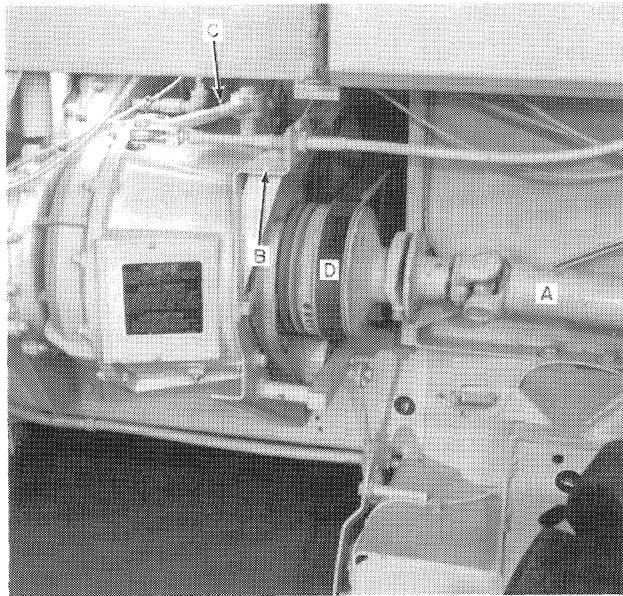
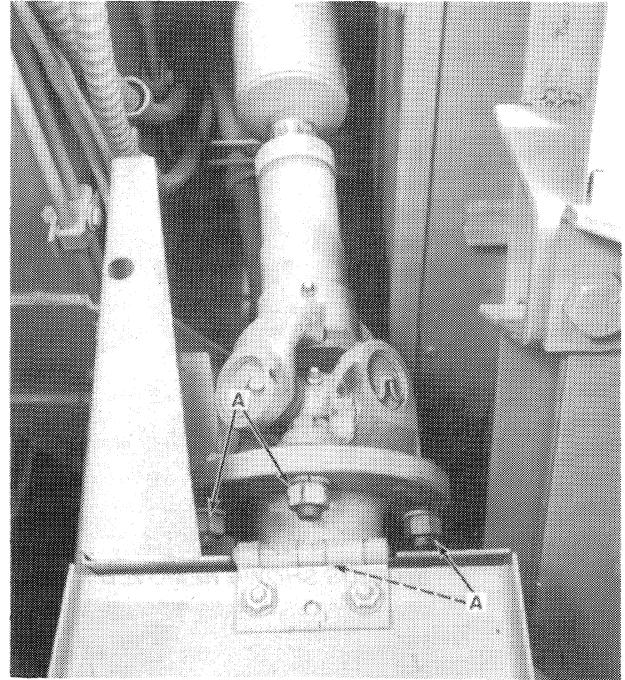

FIGURE 2-1
FIGURE 2-2
2. MODELS 1900/2100 - Remove the drive shaft, A, Figure 2-1, by removing the shear bolts and unbolting the shaft at A, Figure 2-2.
3. MODELS 1900/2100 - Remove clutch cable and mounting bracket, B, Figure 2-1. Remove the engaging lever, C.